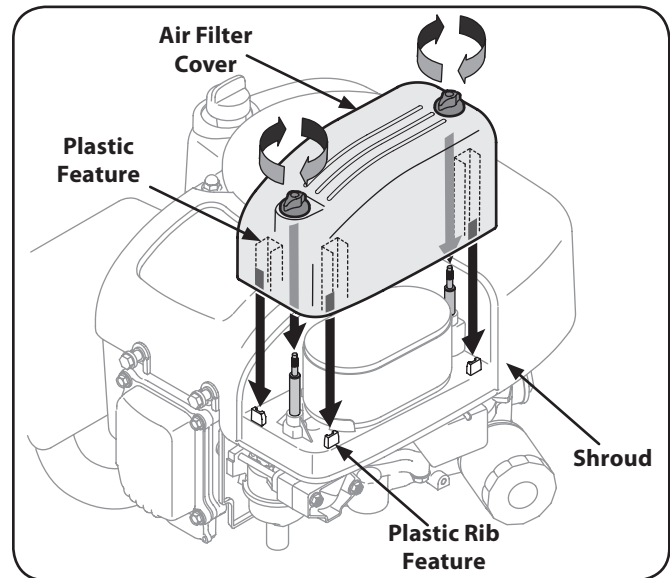

Figure 6-8
6. Attach the air filter cover, making sure to align plastic rib features on the shroud to the plastic features on the air filter cover. See Figure 6-8. Turn thumb screws clockwise until snug. Check for any misalignment.